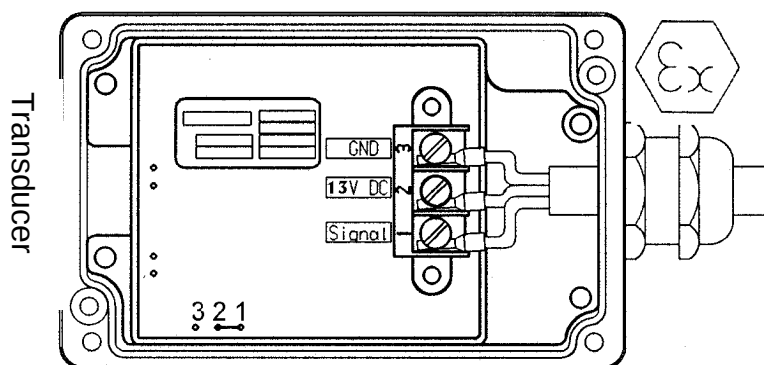

Figure 5: Terminals
- 3.) Connect the three wires to the terminals of the transmitter electronics (see Figure 5)